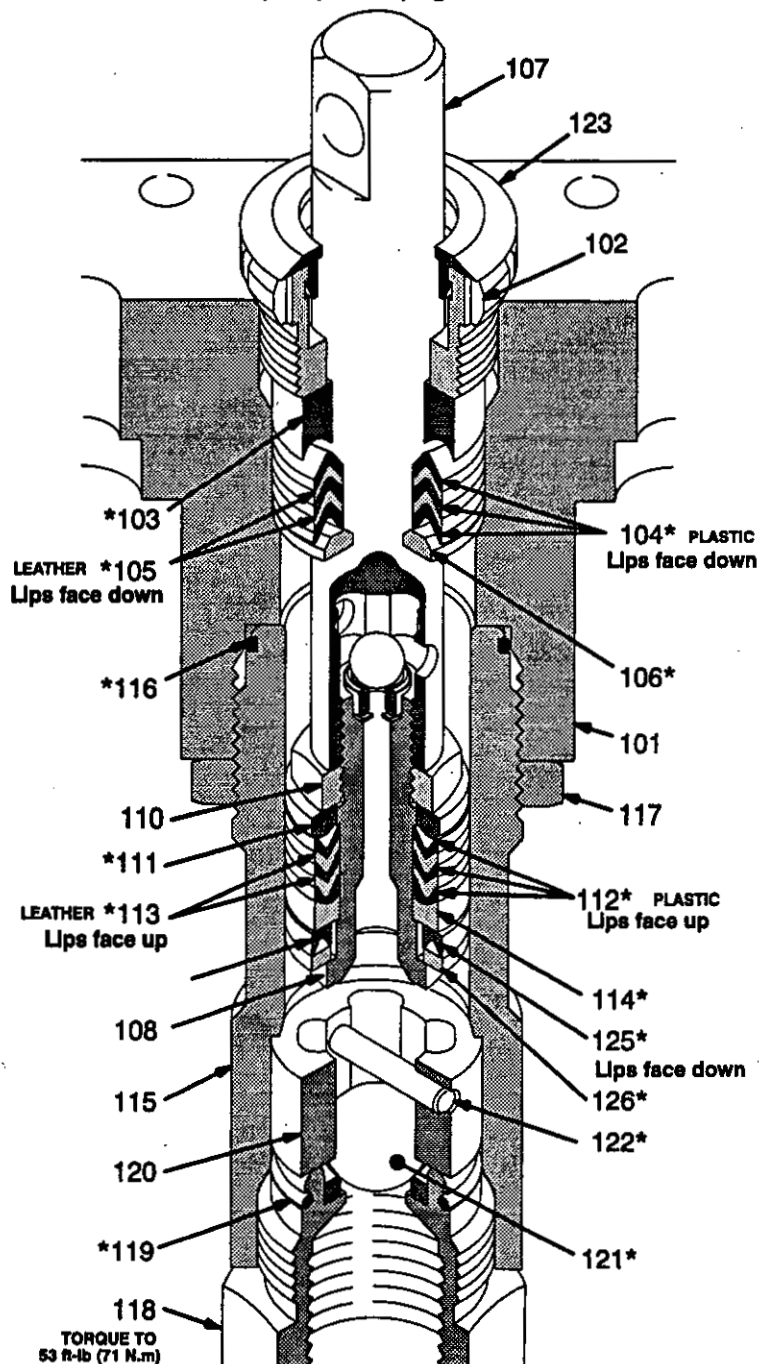

Fig 25
9. Stack these parts one at a time into the top of the manifold (101): the male gland (106*), alternately three plastic packings (104*) with two leather packings (105*), and then the female gland (103*). See Fig 25.